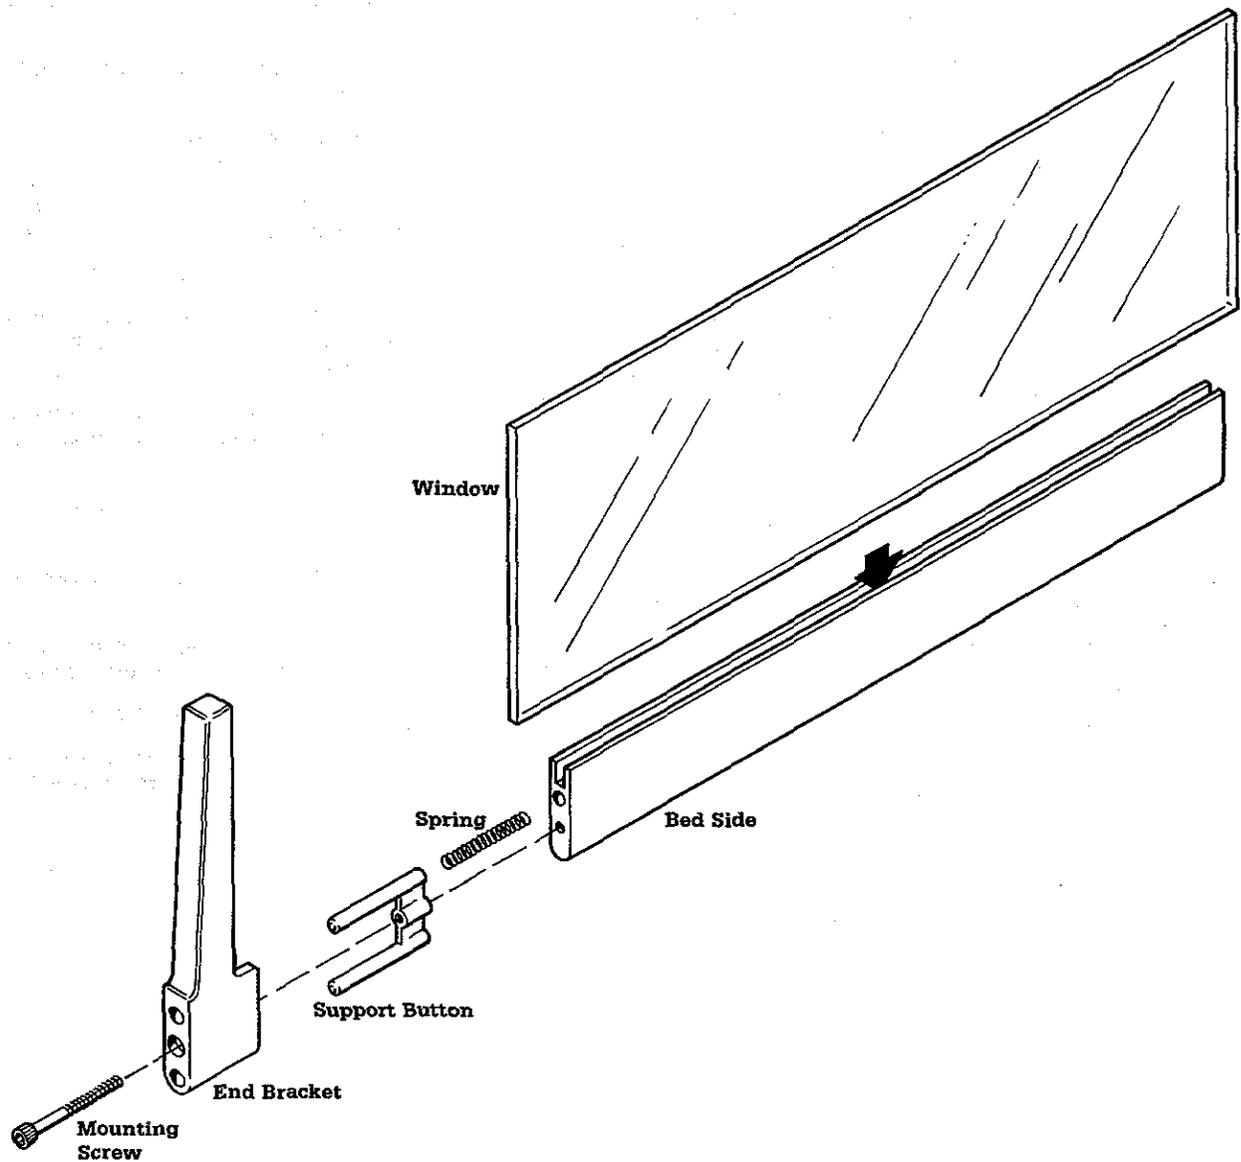

Figure 5-11
B. Side Panel Repairs (Figure 5-11)